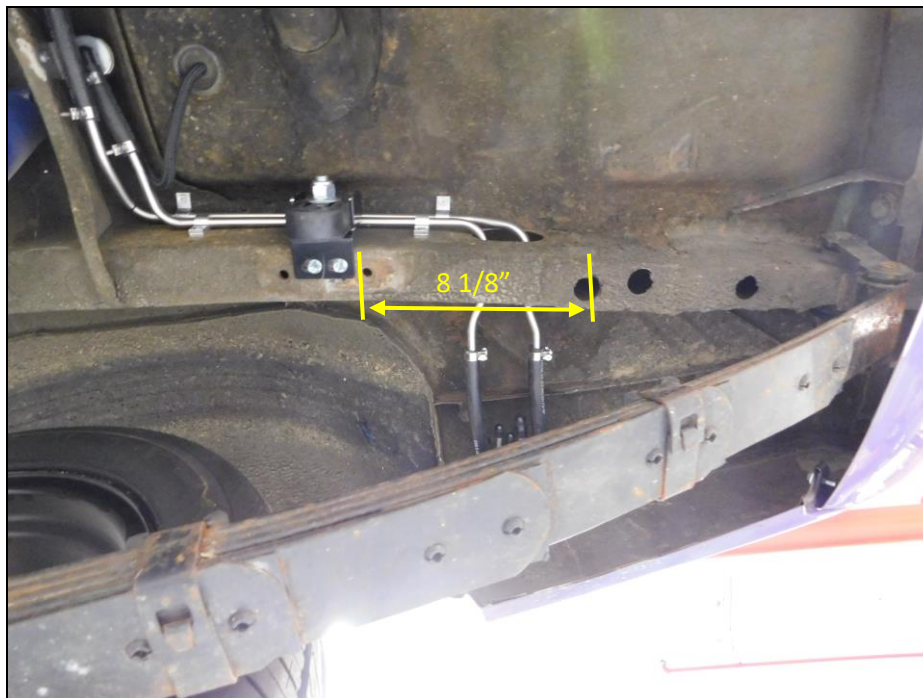

Figure 4
5. To install the tailpipe hanger assembly as shown in **Figure 4**, hold the tailpipe hanger assembly on to the frame rail in the location shown. Measure from the center of the hole to the edge of the hanger bracket and mark the location of the slots in the bracket with a sharp awl or scribe. Make sure the ½" nut is tight against the frame rail during this process